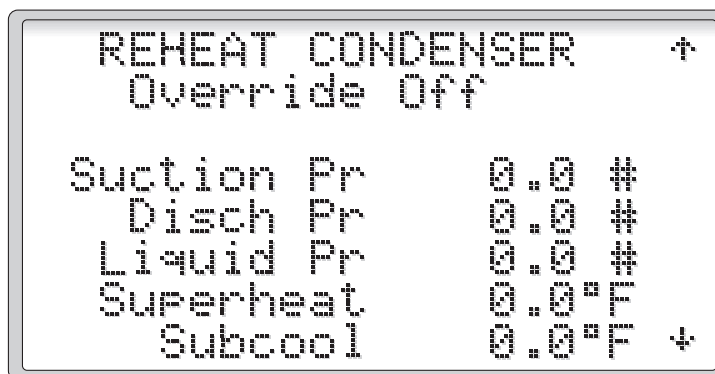

Figure 60
2.3.4.5 Diagnostics (Figures 60 - 62)